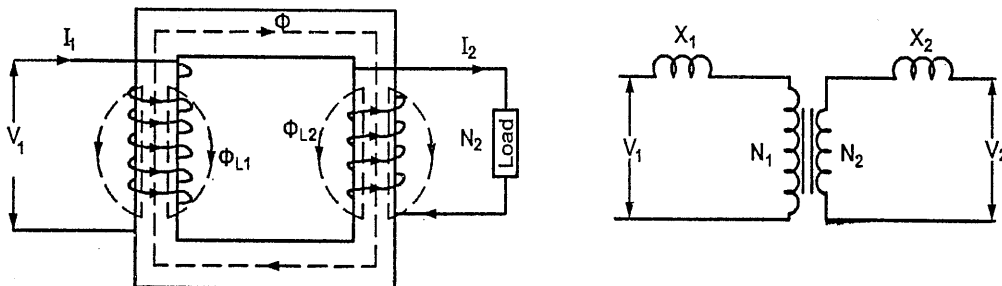

FIG. 3.24
- (1) Flux ϕ = Flux links with both primary and secondary.
- (2) Flux ϕ_{L1} = Primary leakage flux
- (3) Flux ϕ_{L2} = Secondary leakage flux
- Similarly, the total flux produced by the secondary winding does not link with the primary winding and some flux completes the path through air. This is the secondary leakage flux ϕ_{L2} . Emf is induced in secondary winding due to this leakage flux emf is induced in the secondary winding which opposes the induced emf due to the main flux. This effect is indicated by the secondary leakage reactance X_{L2} . Fig. 3.24 shows the reactance of the primary and secondary windings.